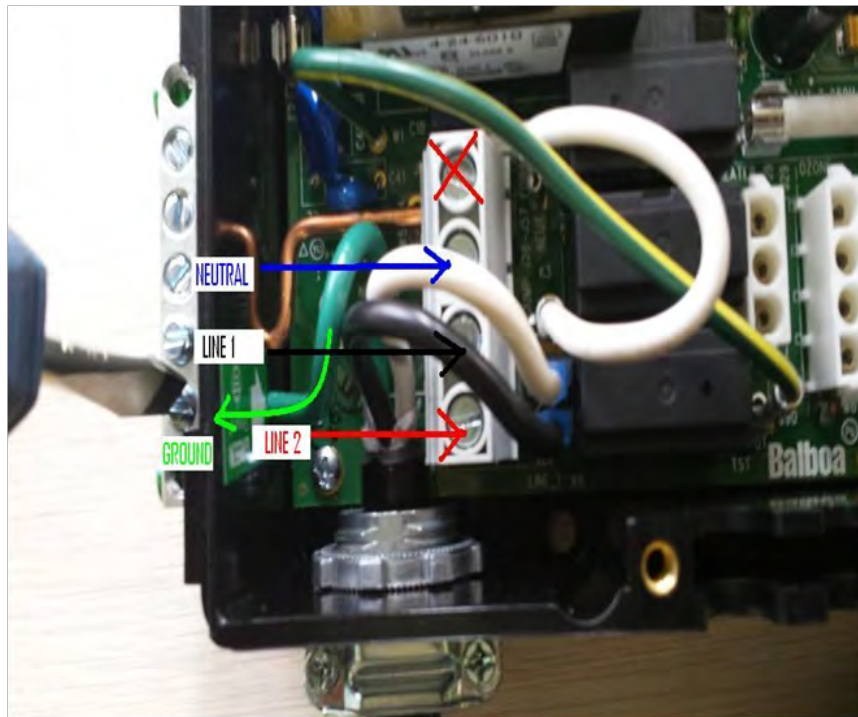

FIGURE 4—Power Wire Connections
- 5.) Wire connection on main circuit board terminal (top to bottom) as shown in figure 4 (on page 14):
- 6.) Connect the ground copper wire in the outside ground lug as shown in Figure 4 (on page 14).